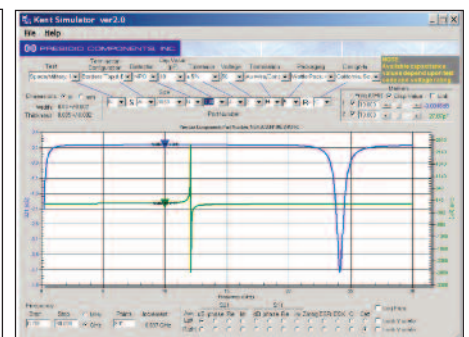

Fig. 6. Modeled S21 and Ceff of part
- ◆ Excellent low loss performance for high Q applications as demonstrated with a 10 pF NPO capacitor shown in Fig. 6 below.
When minimum loss is required, e.g. a low noise circuit, a high Q capacitor with Class I dielectric (NPQ or NPO) is recommended. Any parallel resonance frequency of the capacitor should be outside of the use frequency band. The best capacitor choice puts the series resonance at the band center (approximately  $f_0 / 2$ ). See Fig. 6.